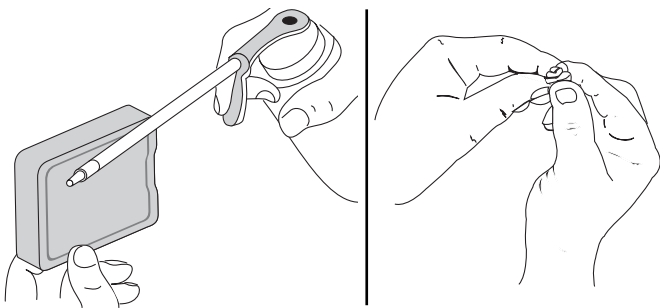

Fig. 21
- Apply enough clean SAE 30 motor oil to lightly coat the filter (Fig. 21).
- Squeeze the filter to spread and remove excess oil (Fig. 21).